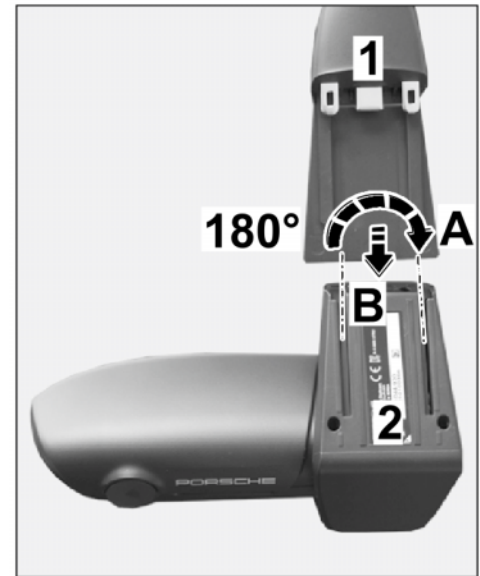

Figure 6
- 2.1.1 Install retainer plate with wire harness on the base of the front camera until the locking mechanism engages. ⇒ *Figure 6*